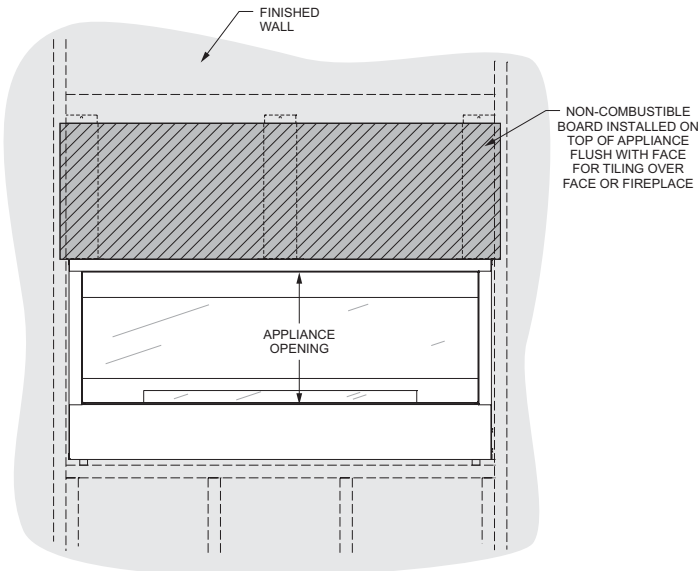

**Figure 27**
4. Secure three middle mounting brackets with drywall screws to the framed opening above the fireplace as shown in **Figures 27 to 34**. The brackets should be installed to support the ends of the non-combustible board. Note: The drywall screws are located in the instruction envelope packet. Secure the left and right framing standoffs to the side framing as shown in figure 24. Secure fireplace on left and right through side framing brackets.
12. Retrieve shorter glass and install in front of burner. **See Figure 27**.